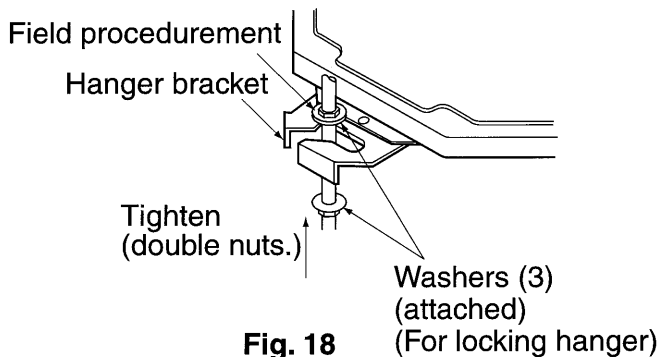

Fig. 18
2. Install the indoor unit. (Refer to Fig. 18)